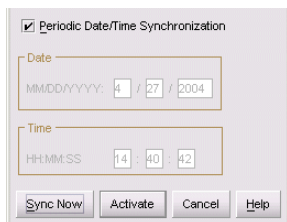

Figure 13 Configure Date and Time dialog box
1. Click **Date/Time** to display the Configure Date and Time dialog box, as shown in Figure 13. The dialog box appears with a check mark (the default) in the **Periodic Date/Time Synchronization** check box. If this field is checked, the HAFM appliance periodically sets the switch time to automatically synchronize with the HAFM appliance time. Daylight savings time automatically updates on the switch when this option is used. The current date and time display in the **Date** and **Time** fields. If the **Periodic Date/Time Synchronization** field is checked, the **Date** and **Time** fields are disabled (grayed out). To enable and disable **Periodic Date/Time Synchronization**, click the check box and then click **Activate**.